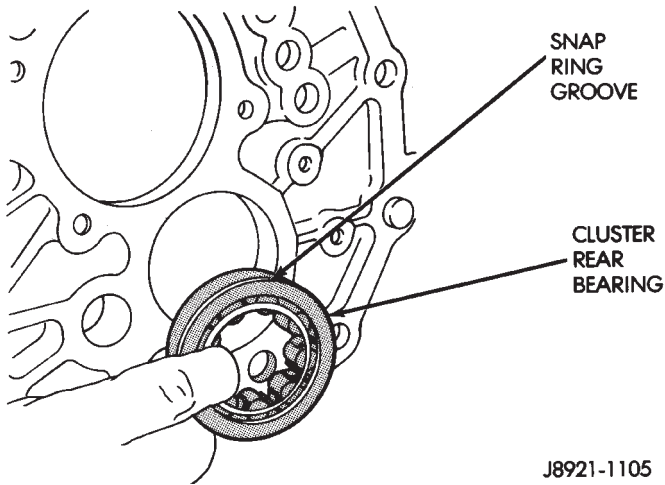

Fig. 81 Installing Cluster Gear Rear Bearing
- (2) Lubricate cluster gear journal and rear bearing with petroleum jelly or gear lubricant.
- (3) Install cluster gear rear bearing in intermediate plate (Fig. 81). Be sure snap ring groove in bearing is rearward as shown.